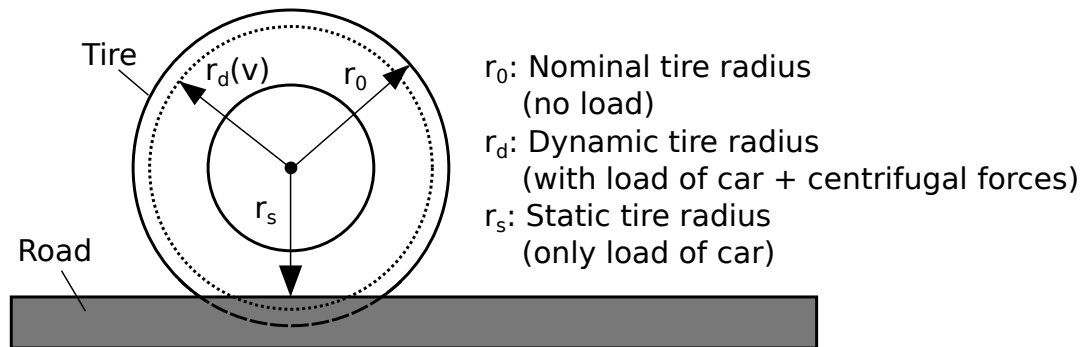

Fig. 1: Illustration of several tire radii
For the translational speed measurement of a car, angular position sensors are used at each of the four wheels. In order to get the speed value, the angular position measurement should be done every δt seconds. For the speed calculation the radius of the tire has to be known. Figure 1 illustrates several tire radii for one tire. Note that the dynamic tire radius depends on the translational speed of the car due to an increasing centrifugal force acting on the tire.
- Write down the equation to calculate a car's translational speed v depending on the change of the tire angle $\delta\varphi$, the time period between two angle measurements δt and one of the tire radii shown in Fig. 1. Choose which tire radius should be used in order to get the most accurate translational speed value.